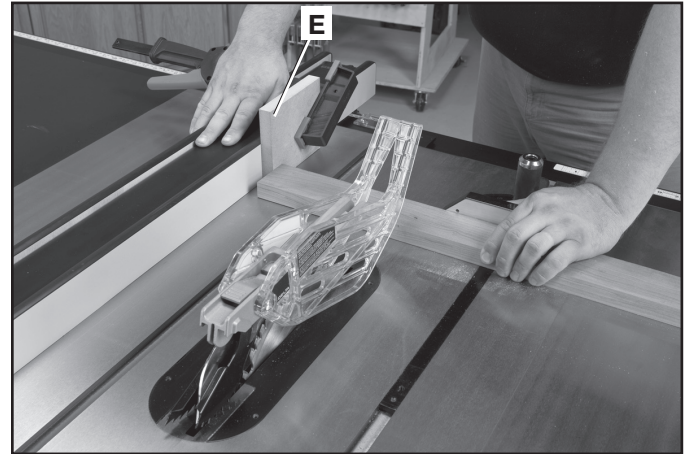

FIG. 60
When cross-cutting a number of pieces to the same length, clamp a block of wood (E) Fig. 60 to the fence and use it as a cut-off gauge. The block (E) must be at least 3/4" (19 mm) thick to prevent the cut-off piece from binding between the blade and the fence during removal from the saw table. Always position this block of wood in front of the saw blade. Once the cut-off length is determined, lock the fence and use the miter gauge to feed the work into the cut.